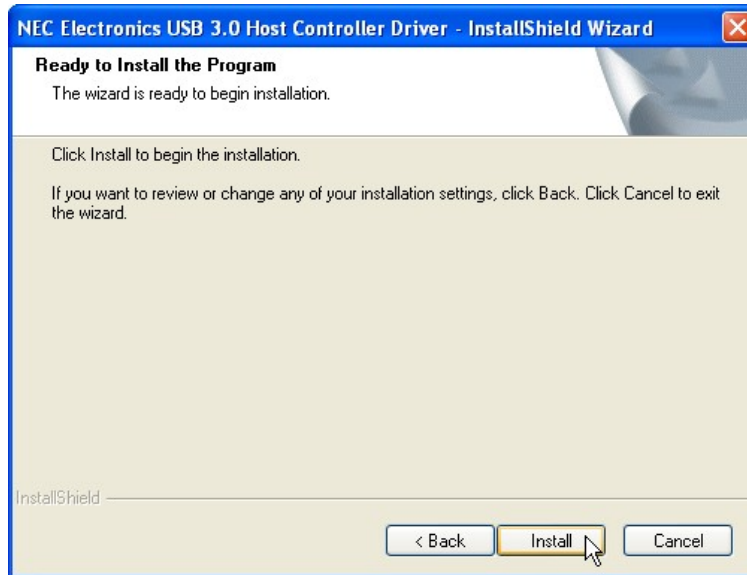

Figure 6-26: USB 3.0 Driver Installation
Step 11: The Ready to Install the Program screen in Figure 6-26 appears.